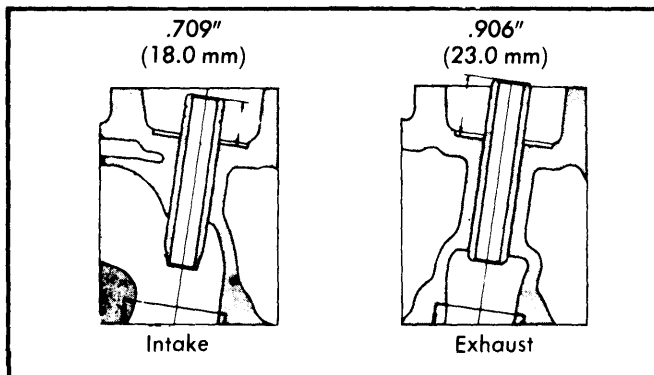

Fig. 4 Correct Valve Guide Projection
1) Check valve guide for wear or damage. Replace defective guides by using a drift and driving out guide through top of head. Press in new guide from top of head until correct projection of guide above head is achieved. See Fig. 4.